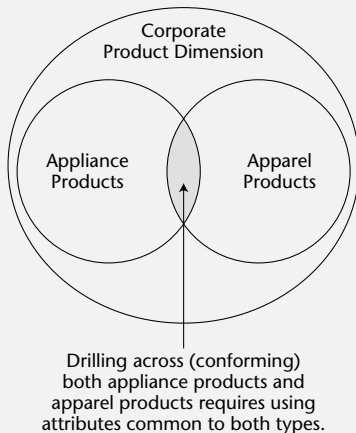

Figure 15: Conforming Rollup Dimension Subsets
- For example, a corporate product dimension contains data for a *full* portfolio of products across multiple disparate lines of business, as illustrated in Figure 15.